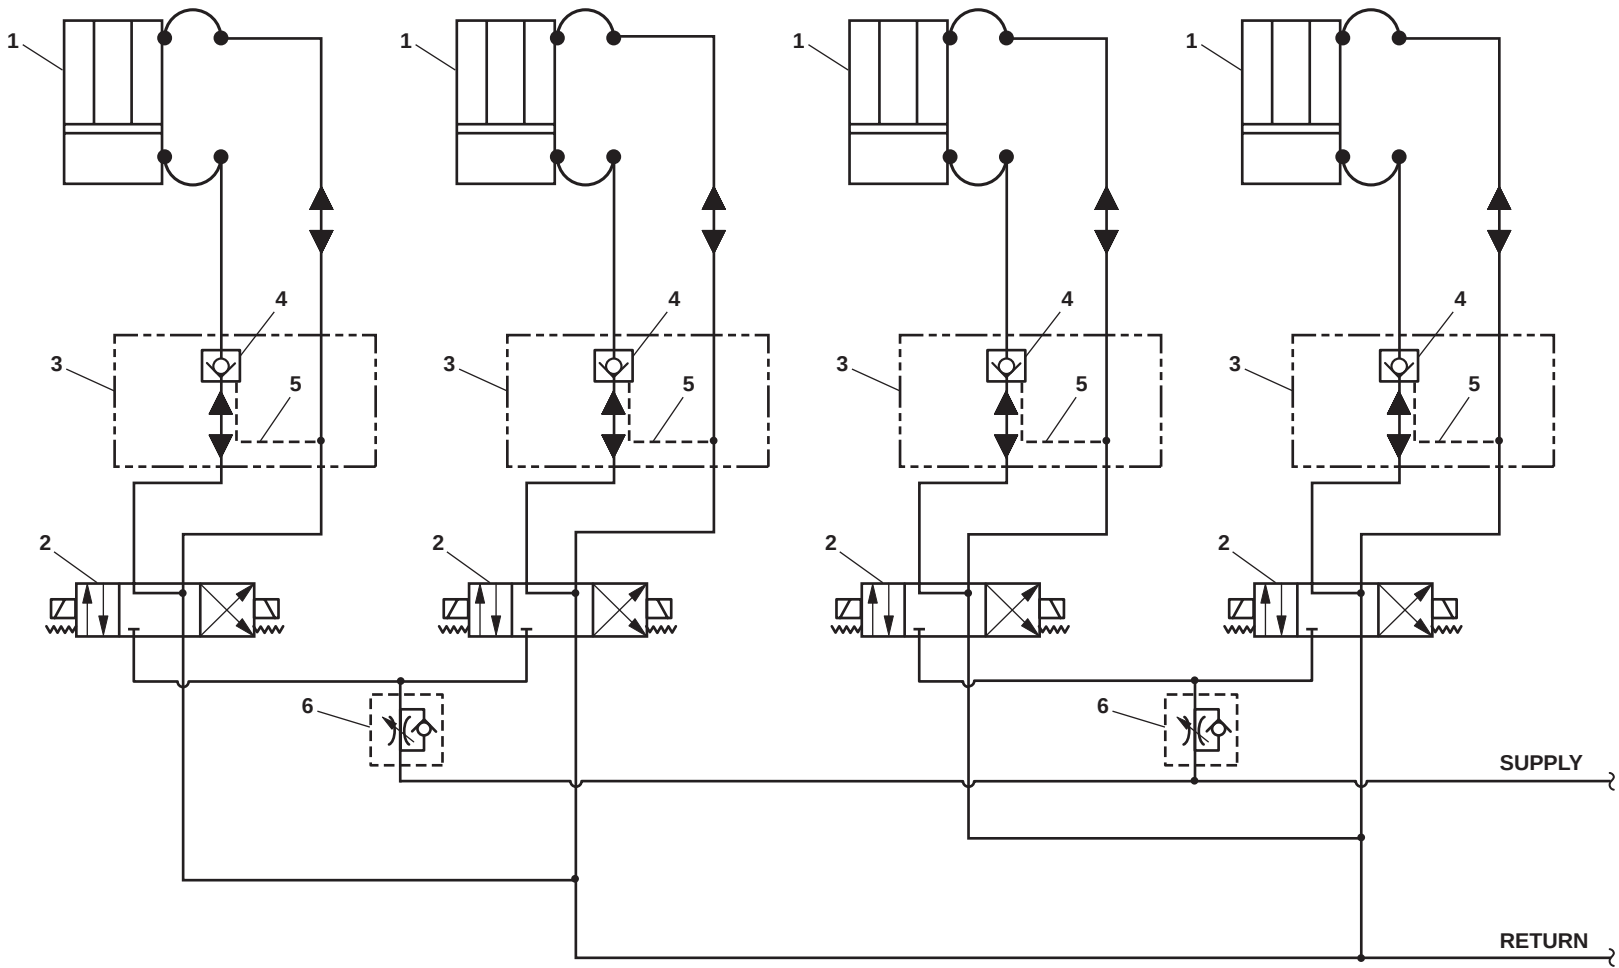

Figure 11. Tow Pin Hydraulic System
Each tow pin is raised and lowered by its own hydraulic cylinder (figure 11, item 1). The cylinders are extended or retracted by supplying pressurized hydraulic fluid to the rod side (retract) or to the piston side (extend) of the hydraulic cylinder.
Movement of the hydraulic cylinders (figure 11, item 1) is controlled by solenoid operated directional control valves (figure 11, item 2), one valve for each cylinder. When the directional control valve is in the NEUTRAL position, the supply line is blocked and both sides of the hydraulic cylinder are OPEN to the reservoir (return). When the hydraulic control valve is shifted to the right (right solenoid energized), hydraulic pressure is directed to the piston side of the hydraulic cylinder and the cylinder extends. During extension, the hydraulic fluid forced out of the rod side of the hydraulic cylinder passes through the directional control valve and back to the reservoir.
When the directional control valve (figure 11, item 2) is shifted to the left (left solenoid energized), hydraulic pressure is directed to the piston side of the hydraulic cylinder (figure 11, item 1) and the cylinder retracts. Retraction of the cylinder is further controlled by the holding valve (figure 11, item 3). Holding valve operation is explained below.
In order to prevent uncontrolled or undesired retraction of the tow pins, each hydraulic cylinder (figure 11, item 1) is provided with a holding valve (figure 11, item 3). The holding valve prevents the cylinder from retracting until pressure is supplied to the rod side of the cylinder. When no pressure is applied to the rod side of the cylinder, a check valve (figure 11, item 4) inside the holding valve prevents return hydraulic fluid from exiting the piston side of the cylinder. If this return hydraulic fluid cannot exit, the cylinder cannot retract. When pressure is applied to the rod side of the cylinder, a portion of this pressure is routed through the internal pilot line (figure 11, item 5) to OPEN the holding valve. Once the holding valve is OPEN, return flow is permitted from the piston side of the cylinder and retraction occurs.
Supply to each pair (port and starboard) of tow pin cylinders (figure 11, item 1) is restricted by a flow control valve (figure 11, item 6). The flow control valve ensures that the tow pin cylinders extend and retract at a controlled rate of speed.